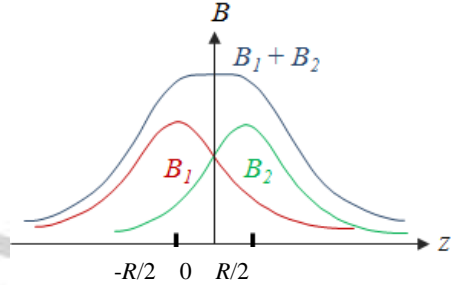

Figure 2
2. Connect the output terminals of the power supply in series with the coils, as shown in *Fig. 2*, using appropriately coloured, red and blue cords. Remember that the ammeter may be a part of the power supply and need not be connected externally. Connect the positive (red) terminal of power supply to *socket 1* of *coil 1* with a red cord. The cord connecting the two coils may be red or blue, but it must be across *sockets 2* on both coils. Connect a blue cord between the *socket 1* of *coil 2* and the negative terminal (black) of the power supply. This implies that the current flows anticlockwise in both coils, when seen from *coil 1* side. This ensures that the magnetic fields due to two coils do not cancel each other and add to produce a uniform magnetic field, which is directed from *coil 2* to *coil 1* (as shown in *Fig.2*). Show this circuit to the instructor, before proceeding further.